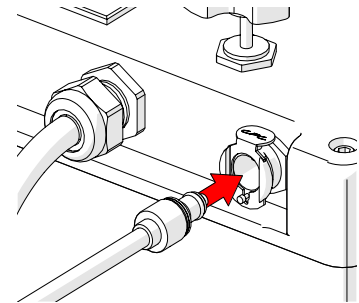

Fig. 3 - Connect irrigation kit to outlet
3. Connect the irrigation kit (sold separately) to the outlet (Fig. 3).